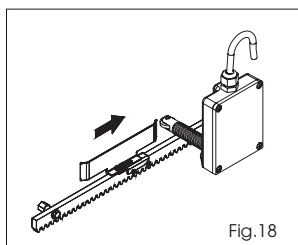

Fig.18
- 5) Allow the plate to slide over the rack in opening direction (Fig.18). As soon as the opening limit switch LED on the control board goes off, take the plate forward by about 20÷30 mm and secure it provisionally on the rack, using the supplied screws.